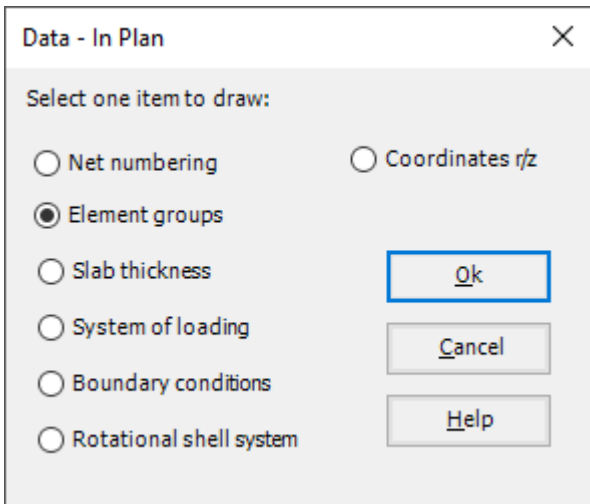

Figure 4.27 "Data – In Plan" option box
- Choose "Element groups" from "In Plan" command in "Data" menu. The following option box in Figure 4.27 appears